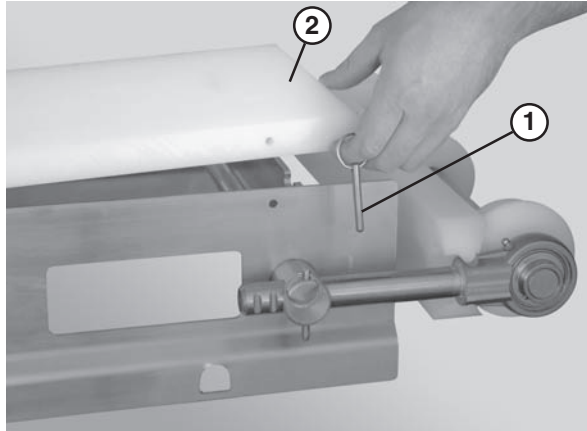

Figure 43
1. Remove the guides, if applicable, by removing the pull pins (Figure 43, item 1) that connect the guide (Figure 43, item 2) to the frame.